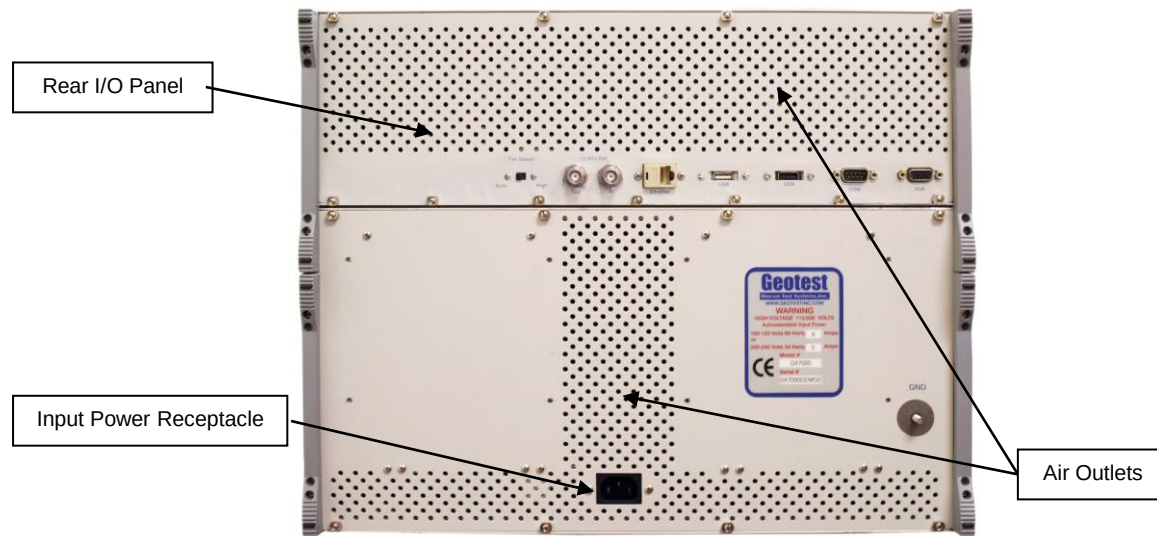

Figure 2-8: GX7000B / GX7002B Rear I/O Panel
Note: The GX7000A's rear I/O panel is configured differently and supports only Ethernet, USB, PS2, and (2) COM interfaces. Figure 2-7 details the GX7000A rear panel and Figure 2-8 details the rear panel of the GX7000B model.